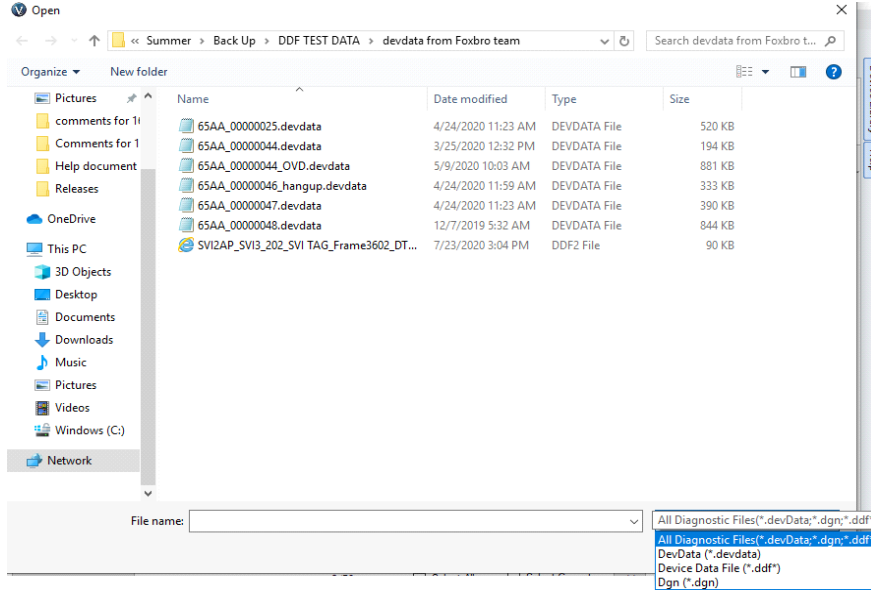

Figure 100 Import Diagnostic: Open
1. Click **Import Diagnostic** button and Figure 100 appears. SVI3 DTM allows to import diagnostic test data through four types of files: DevData, DDF (including DDF and DDF2) and Dgn formats.